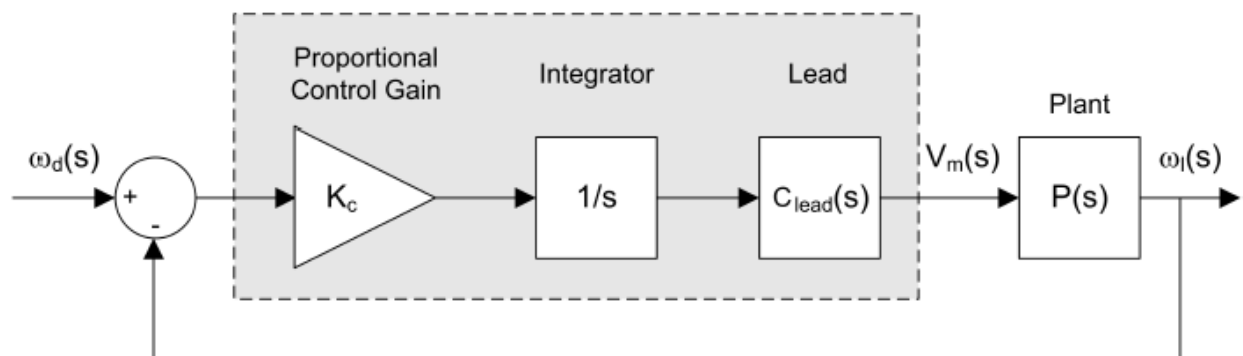
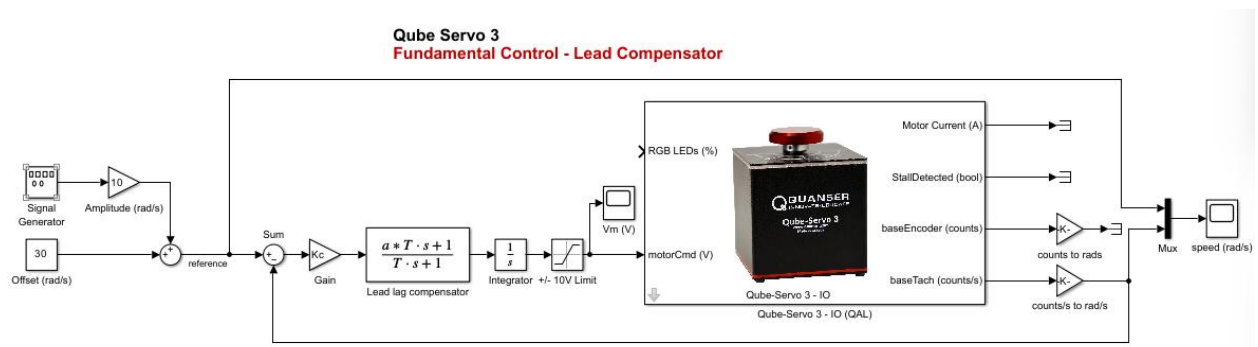

Figure 1: Lead compensator with integrator
Figure 2: Simulink implementation of lead compensator for Qube-Servo 3.
The classic lead compensator given above may not achieve zero steady-state error. To ensure we have zero steady-state error, it is necessary to include an integrator in the controller and so we will use a controller of the form of Figure 1:
The Simulink model shown in Figure 2 implements the lead compensator designed in the previous section for testing on the physical Qube-Servo 3. You will observe that Figure 2 implements the scheme shown in Figure 1.
16. Open the qs3\\_lead.slx Simulink model, design the Simulink model to be like Figure 2 by inserting and connecting the relevant blocks as in Figure 2.
20. Take a screenshot of **Speed (rad/s)** and **Vm (V)** scopes. A sample response using  $K_c = 1$  is shown in 3 below: